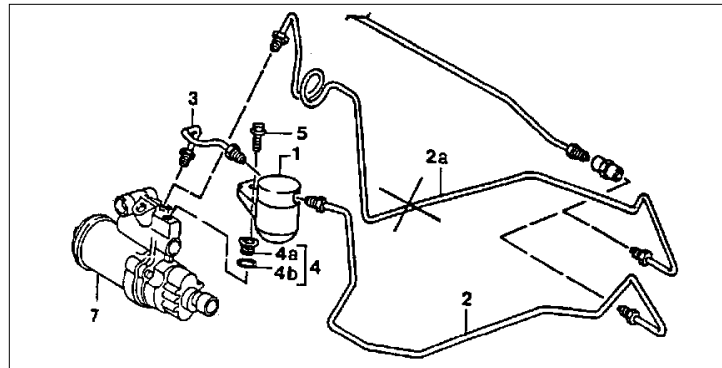

Figure 4
- Remove the blind plug (4a in Figure 4) from the pump with a T45 Torx bit and discard.
- Install the repair set consisting of a inside threaded plug and O-ring (bracket 4 in Figure 4) into the pump. Be certain to lubricate the new O-ring with DOT 4 brake fluid prior to installation. Torque the threaded plug into the pump with an 8 mm allen wrench to 20 Nm + 6 Nm (14.4 ftlbs + 4.3 ftlbs).
- Loosen the long pressure line (2a in Figure 4) and bend upwards. Catch the escaping brake fluid and cap the line.
- Unclip the existing long hydraulic line (2a in Figure 4) from the body wall and remove. Catch any escaping brake fluid.